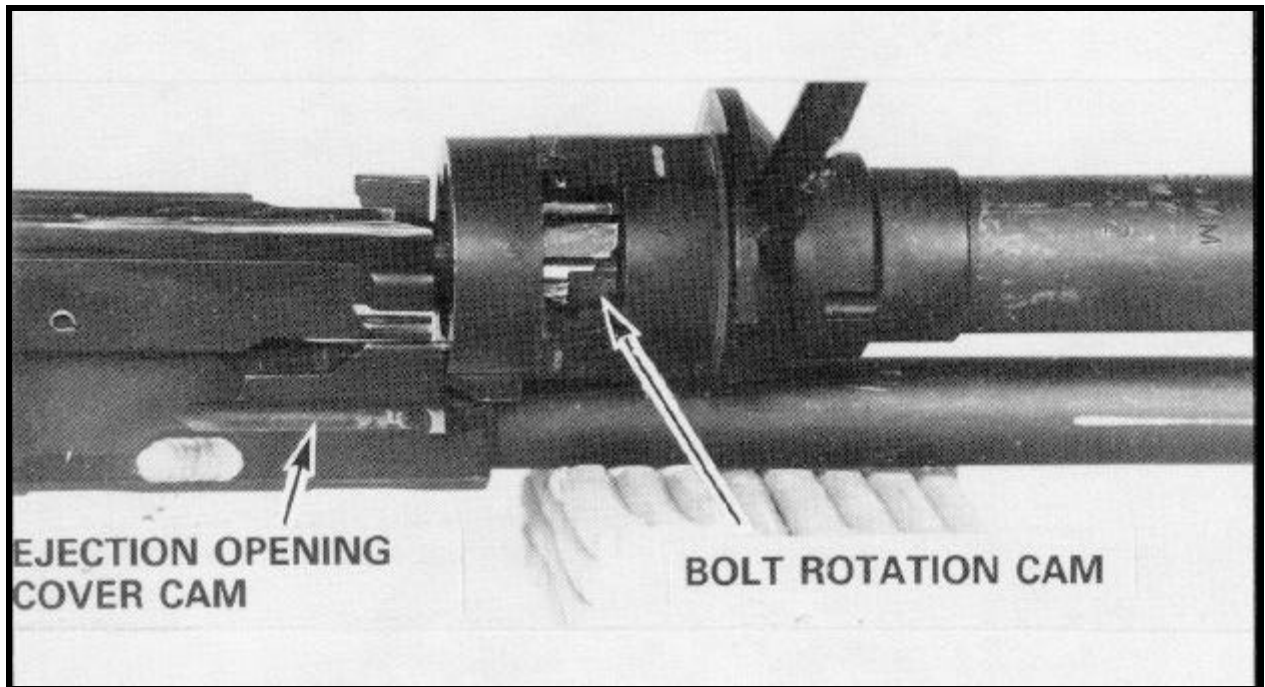
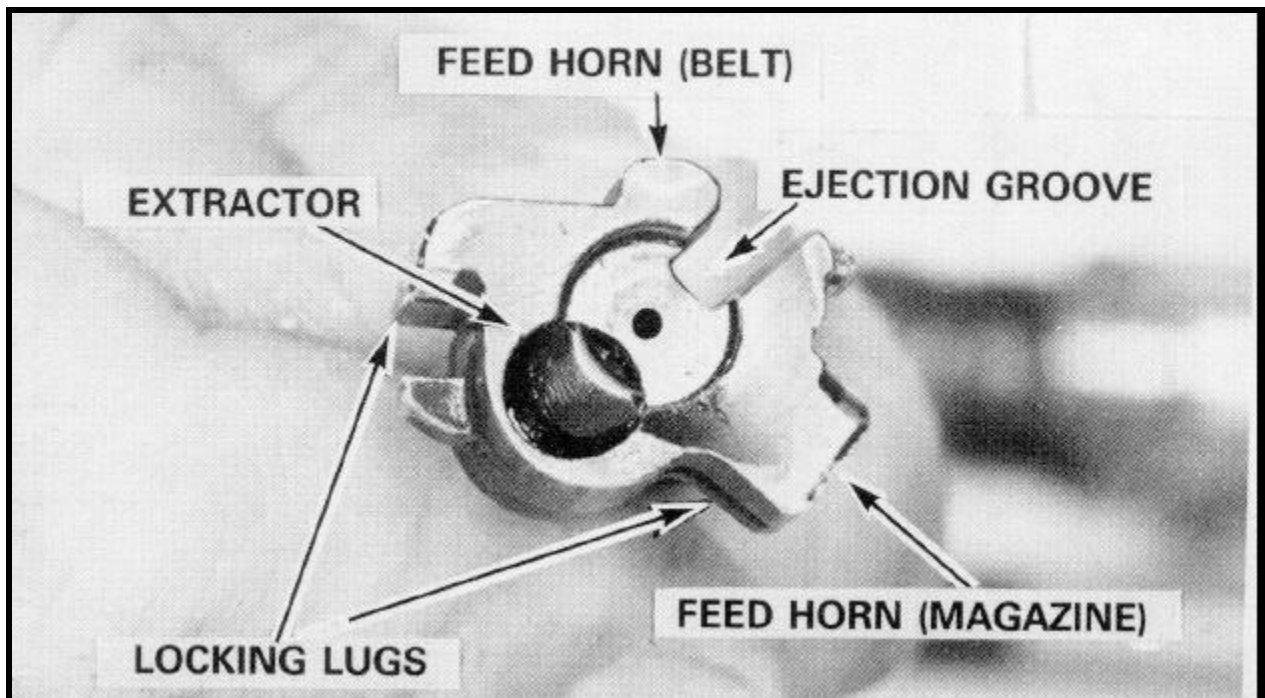

Figure 2-52 Piston Extension
Figure 2-53 Bolt
- a. **Piston Extension** (Figure 2-52)
- (1) Ejection opening cover cam.
- (2) Rear and forward bent.
- b. **Bolt and Slide** (Figures 2-53 and 2-54)
- (1) Feed horns (belt and magazine).
- (2) Locking lugs.
- (3) Bolt locking stud.
- (4) Ejection groove.
- (5) Bolt locking cam slide.